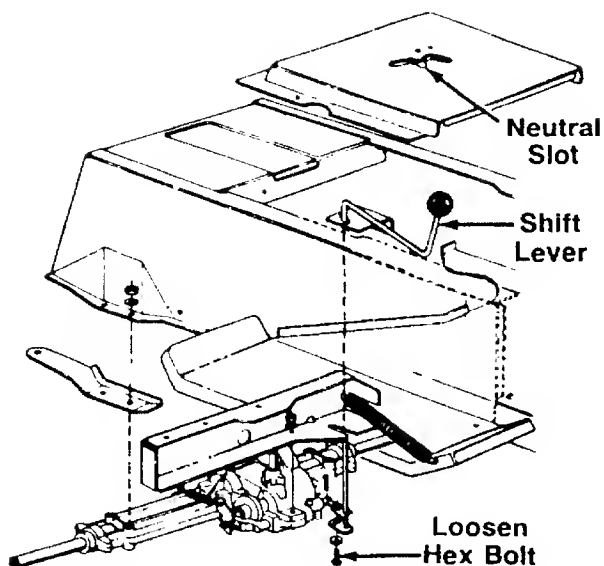

FIGURE 15.
2. Loosen the bolt which secures the shift lever assembly to the shift lever link. See figure 15.
3. Place the shift lever in the neutral slot. See figure 15.